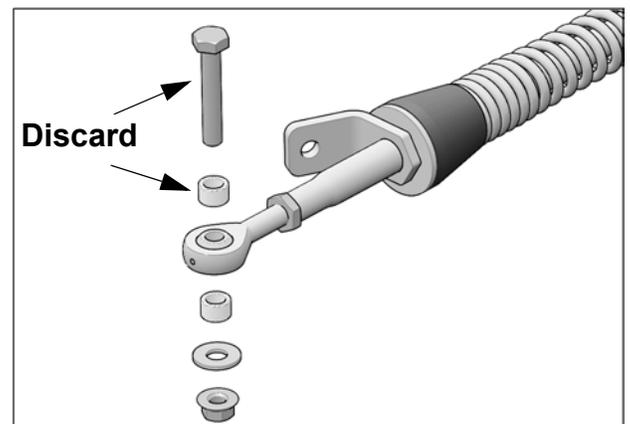

Fig. 3
- Remove bolt, washers and spacer bushings from rear stabilizing rod end. Discard the M10x60mm bolt and one of the spacer bushings from the disassembled set of parts. See Fig. 3